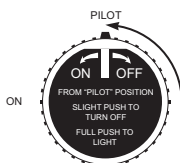

Figure 4 - PILOT Position
4. Turn control valve knob 1/4 turn to left to PILOT position (see Figure 4).